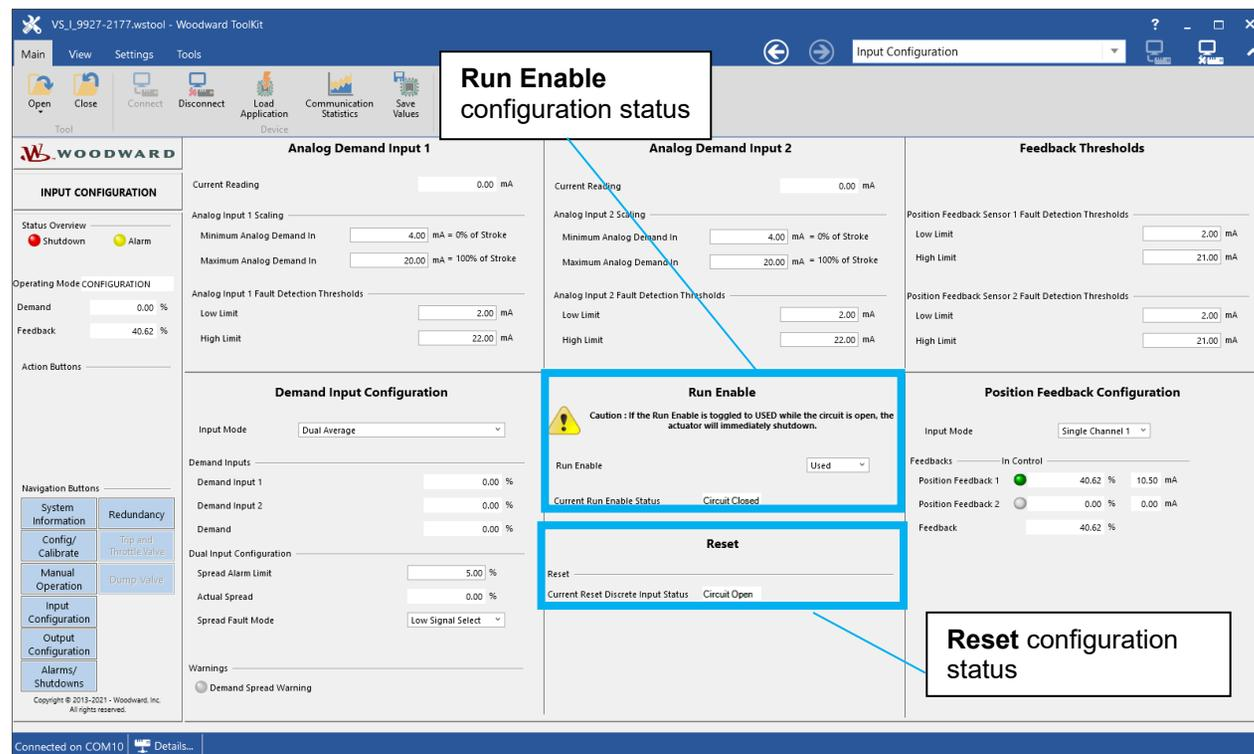

Figure 2-70. Run Enable and Reset Status on the Input Configuration Screen
- In the Customer Service Tool, verify current **Run Enable** Status is **Circuit Open** on the Input Configuration page [notate result in Checklist: ID #14] (Figure 2-70)
- In the Customer Service Tool, verify that the current **Run Enable** Status is **Circuit Closed** [notate result in Checklist: ID #13] (Figure 2-70).
- In the Customer Service Tool, verify current **Reset** Status is **Circuit Closed** on input configuration page (Figure 2-70) [notate result in Checklist: ID #15]
- In the Customer Service Tool, verify the current **Reset** status is **Circuit Open** (Figure 2-70) [notate result in Checklist: ID #16].